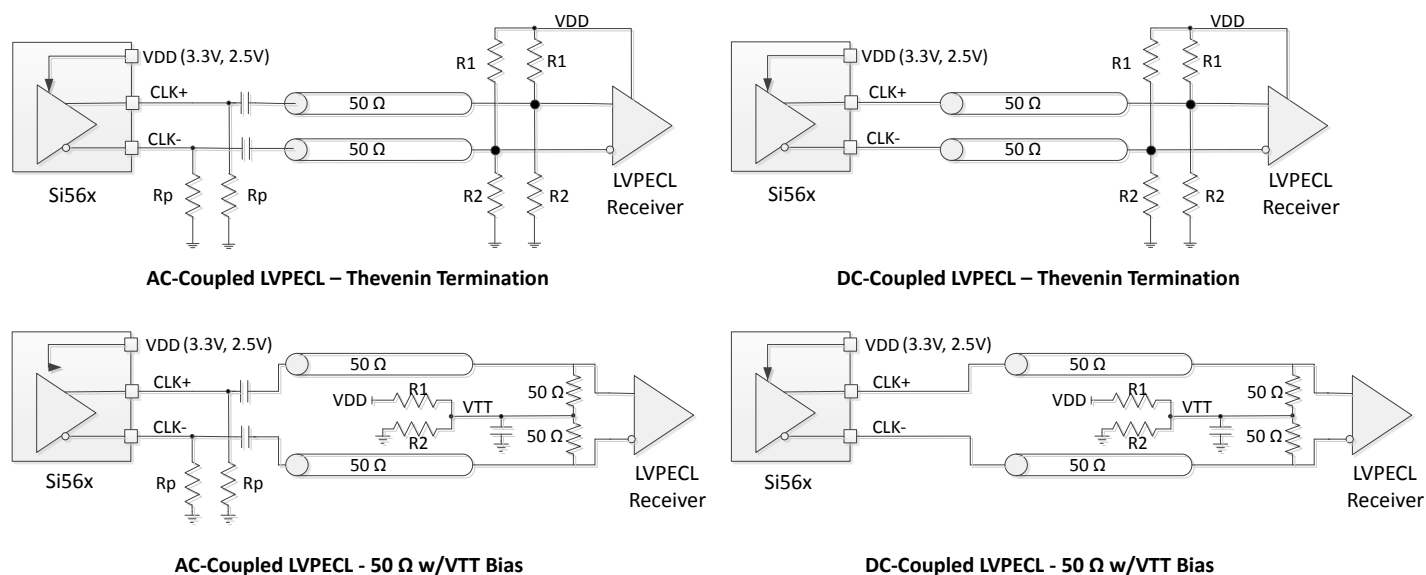

Figure 4.1. LVPECL Output Terminations
3. R_{term} = 50 Ω to V_{DD} – 2.0 V (see Figure 4.1).